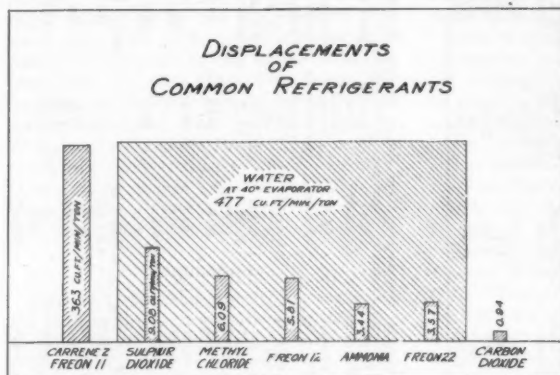

Fig. 4.—Graphic representation of the volume of vapor to be pumped to produce one ton of refrigeration at standard ton conditions
evaporated at the pressure shown in item 6. *Item 9* combines items 7 and 8 (with a correction for flash gas) to show the actual amount of vapor that must be pumped per minute to produce one ton of refrigeration, or 200 Btu's per minute. These figures give a direct comparison of the sizes of compressors necessary to produce the same amount of refrigeration. Fig. 4 graphically shows this information for the different refrigerants.